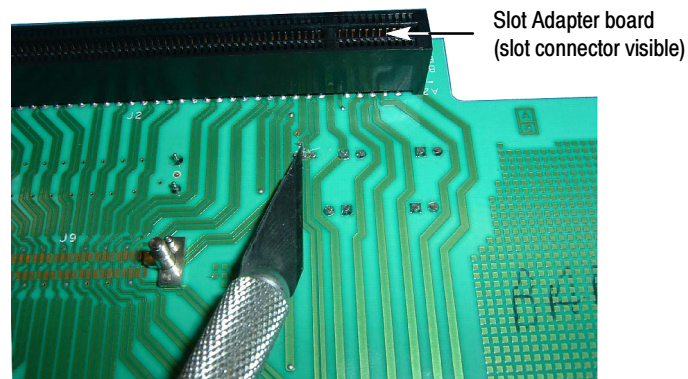

Figure 1: Cut the board traces
1. Place the Slot Adapter board with the black slot connector visible. See Figure 1.